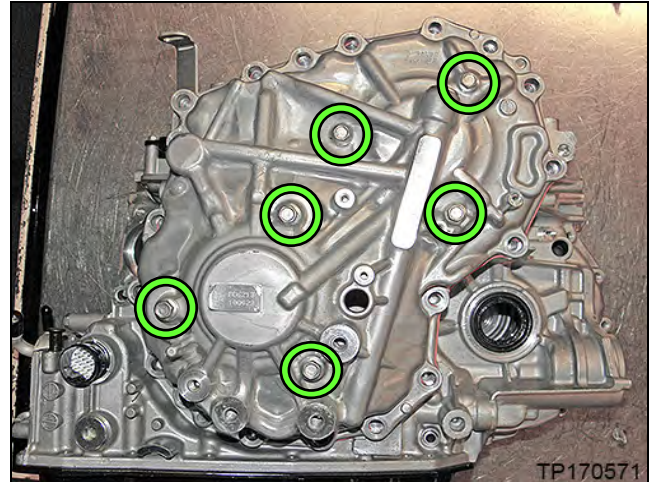

Figure 14F
- Install the Lifting Fixture to the CVT case at the six (6) bolt holes shown in Figure 14F.
- 1) Tighten the lower six (6) wing-nut bolts.
- 2) Tighten the two (2) joint to triangle brackets.
- 3) Tighten the top two (2) wing-nut bolts, and then proceed to step 12 on the next page.